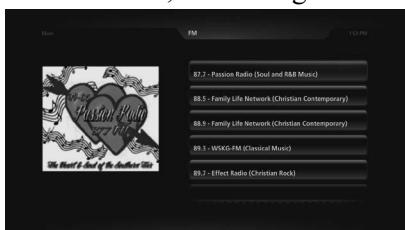
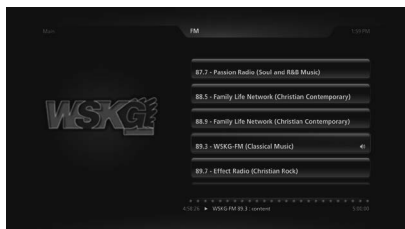

Figure 24
Figure 25
- Referring to figure 24, it follows the same procedure as in step 5, select the fourth choice, "89.3 WSKG-FM (Classical Music)". The sound from the station will start, refer to figure 25.